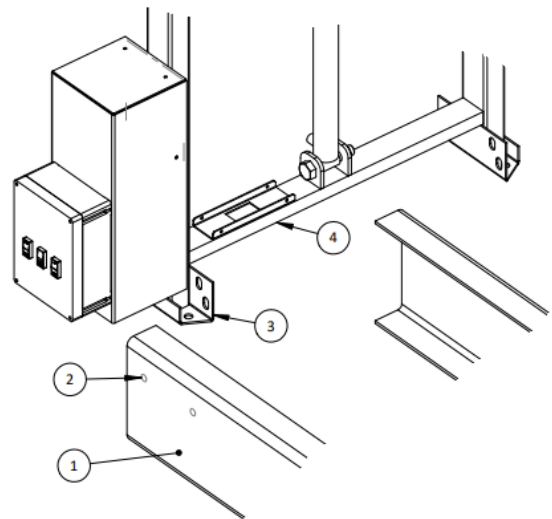

FIGURE 1.2: GANTRY FRAME INSTALLATION
Use clamps to hold frame securely in position, mark, and drill holes (2) through frame rails in line with the mounting holes of gantry bolt brackets (3). See *Figure 1.2*.